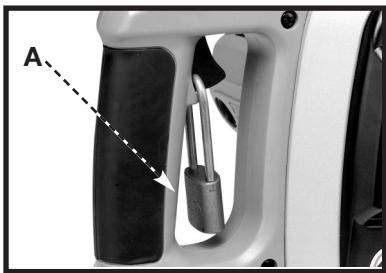

Fig. 4
IMPORTANT: When the machine is not in use, the switch should be locked in the “OFF” position to prevent unauthorized use, using a padlock (A) Fig. 4 with a 3/16" diameter shackle.